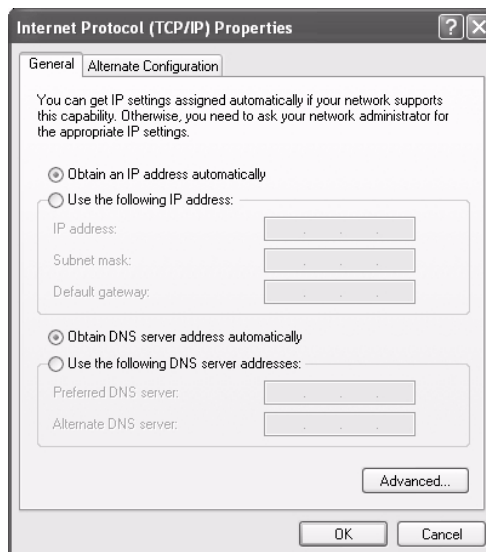

Figure 64: Internet Protocol Properties - Windows XP
5. Click **Properties**. The Internet Protocol Properties dialog appears as shown in Figure 64.